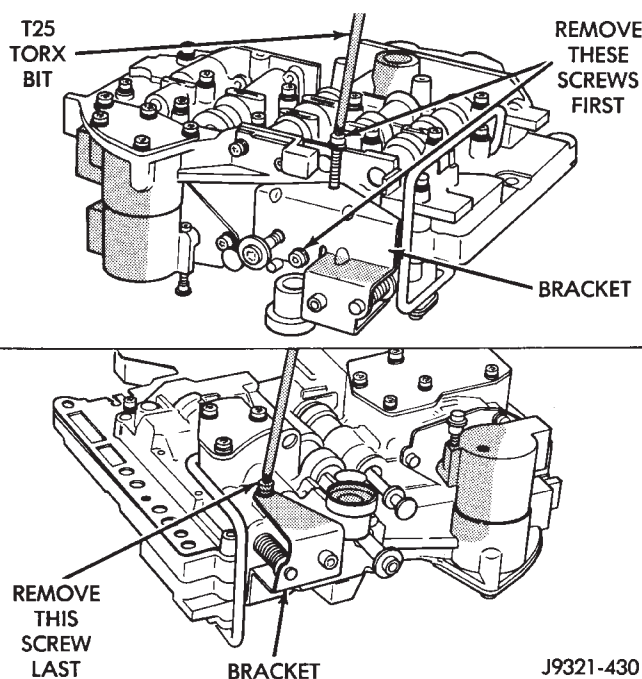

Fig. 106 Removing/Installing Adjusting Screw Bracket Fasteners
(18) Remove screws attaching pressure adjusting screw bracket to valve body and transfer plate (Fig. 106). Hold bracket firmly against spring tension while removing last screw.